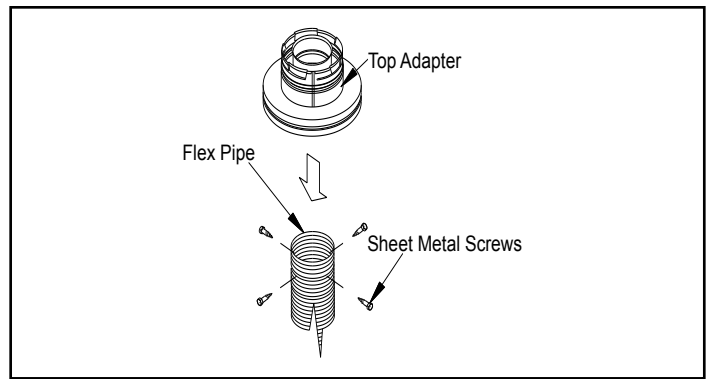

Figure 4.19
3. Connect the end of the flex pipe section to the underside of the top adaptor, using four sheet metal screws. See Figure 4.19.
5. Connect the flex liner to the top adapter using three sheet metal screws. See Figure 4.19.